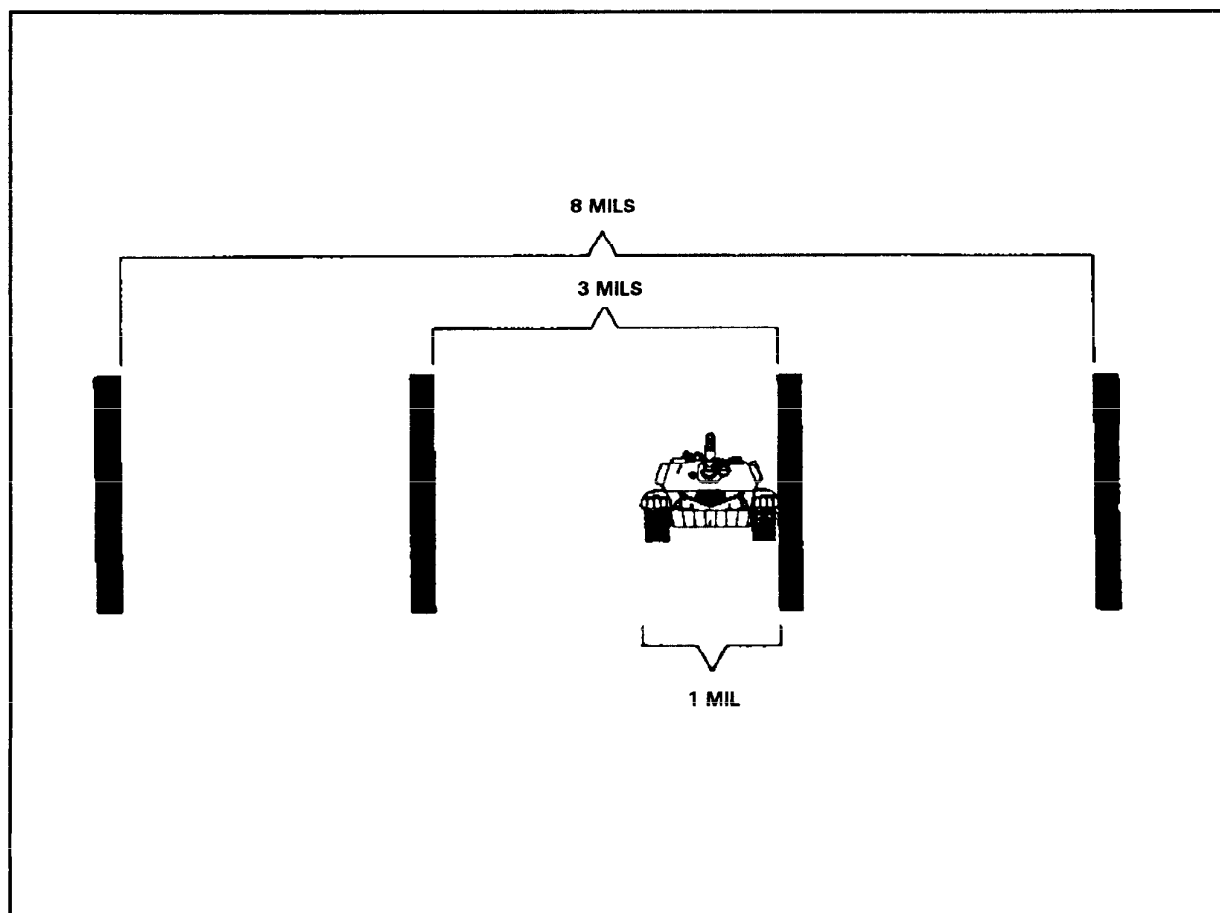

Figure 4-13. Tank head-on appearance at 3,000 meters.
(4) A tank at 3,000 meters viewed head on is 3 meters wide (Figure 4-13); viewed broadside it is 6 meters long (Figure 4- 14). To determine if target is in range, the target must appear the same size or larger. If a determination cannot be made, the squad leader has the gunner use the daysight tracker or nightsight to determine if the target is in range.